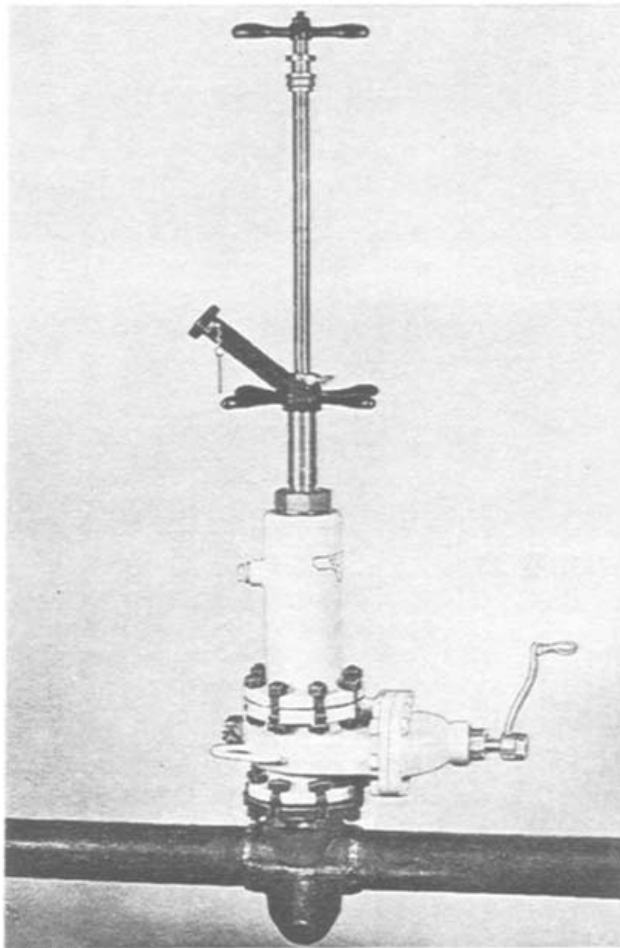

FIGURE 24
7. Place stopping machine on gate valve in same position as marked in paragraph D-12. With gasket in place, bolt the stopping machine to the gate valve. **Figure 24.**